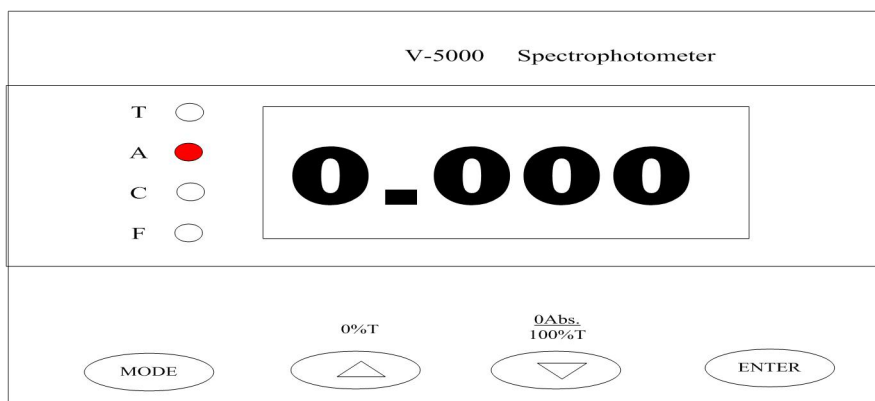
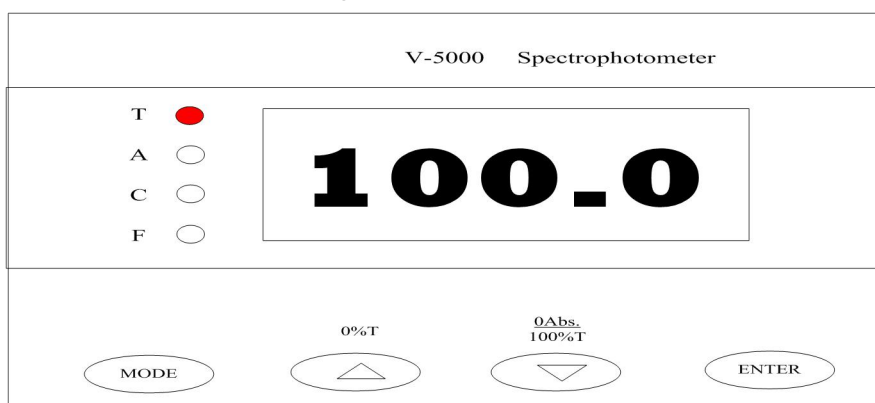

Fig.1-9
Fig.1-10
- a. When in **A** or **T** mode, close the sample compartment, press the key and it will read 0.000 (Fig.1-9) or 100.0 (Fig.1-10).